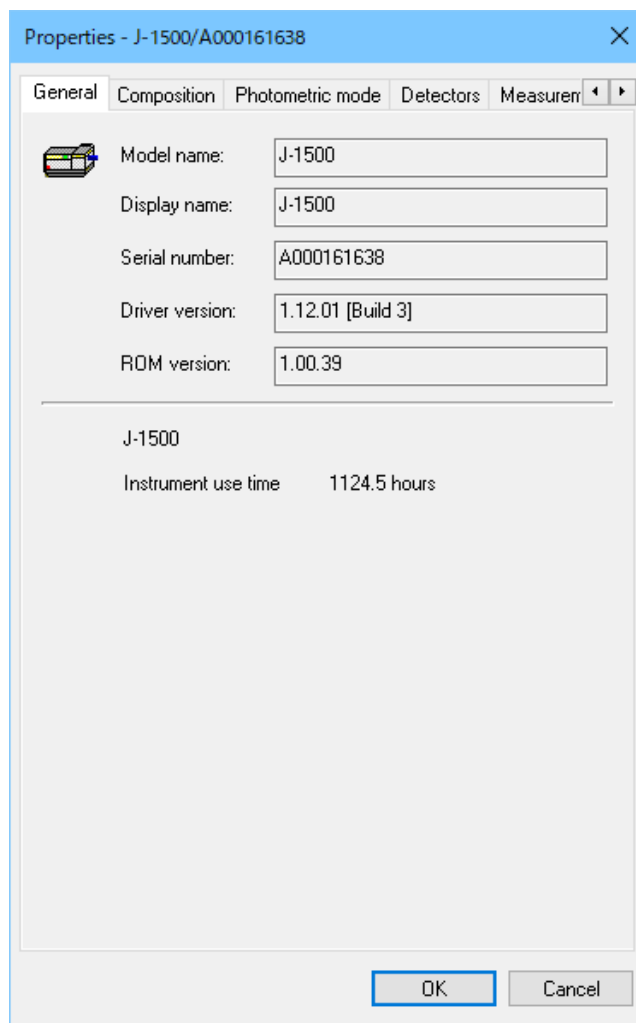

Figure 2.5 [General] tab in [Properties] dialog box
- (4) Restart [Spectra Manager] and start [Administrative Tools]. Right-click the registered CD spectrometer name and select [Properties...] to display the dialog box in Figure 2.5 . First, check that [Model name], [Display name], [Serial number], and [Driver version] are displayed in the [General] tab.